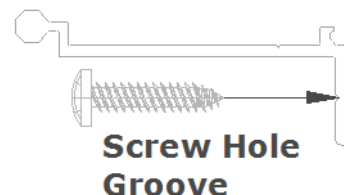

Figure 1
Drill three (3) 3/16" holes in the housing hinge, one approximately 2" from each end, one approximately in the middle. Locate the holes using the groove in the hinge flange (Figure 1).